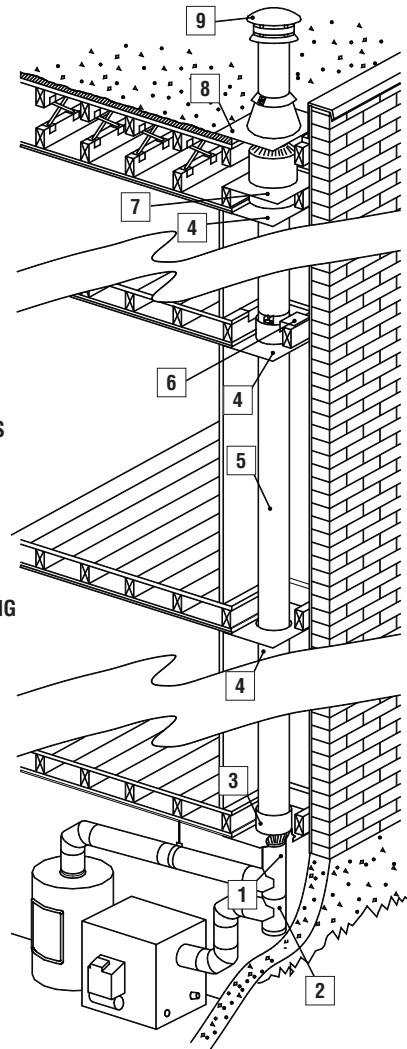

Figure 28
Step 4. From below, install a firestop (DTC-FS) in each floor through which the chimney passes (see Figure 28).